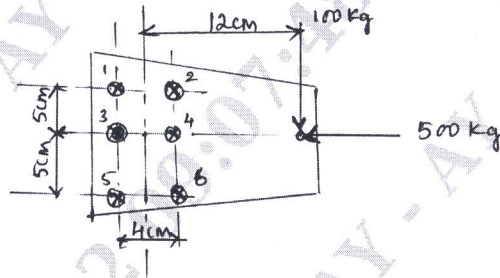

Fig.Q.6(b)
b. Find the resultant force in each rivet of the connection shown in Fig.Q.6(b). (08 Marks)